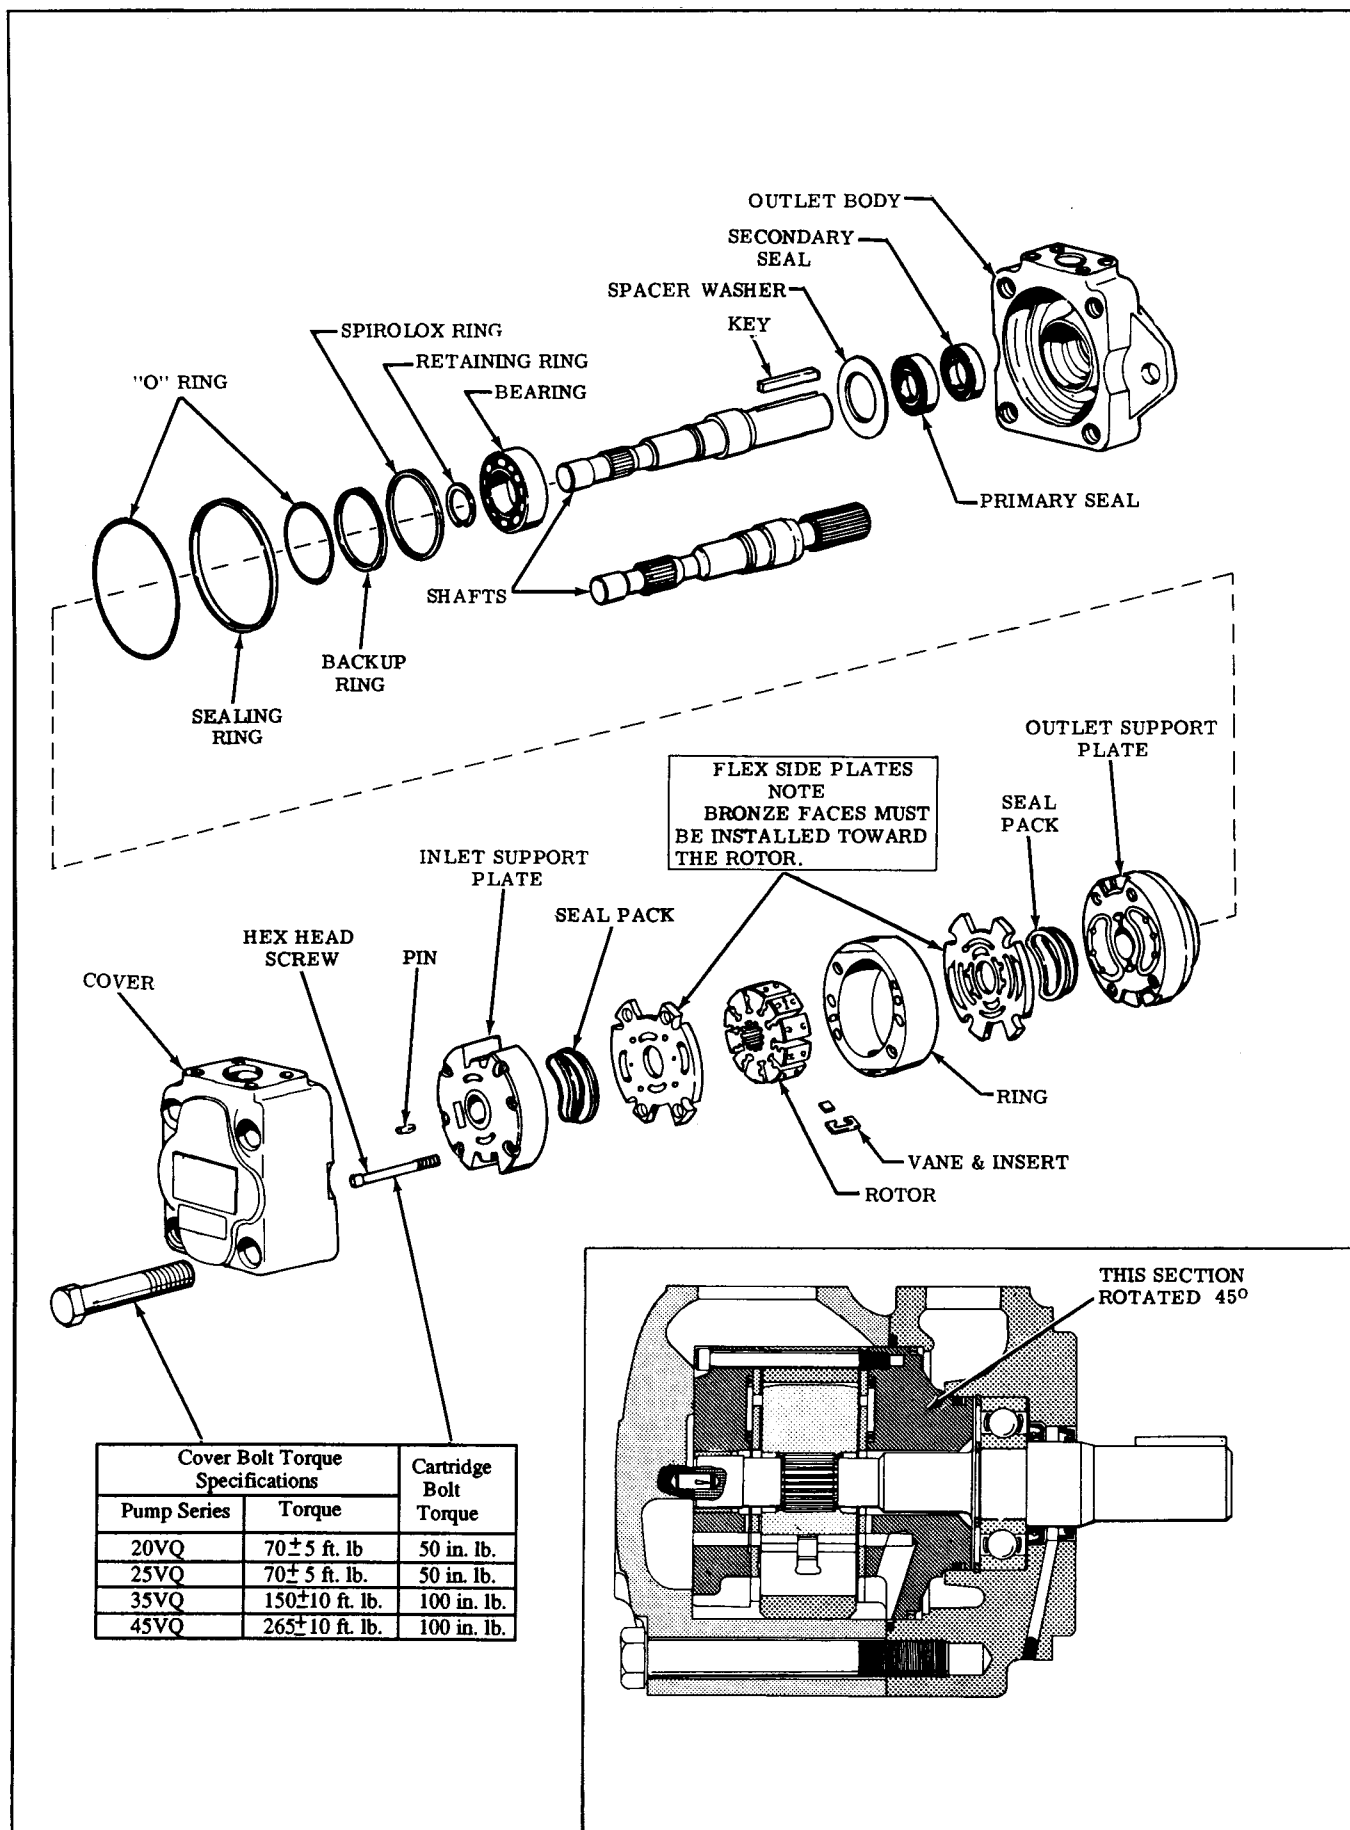
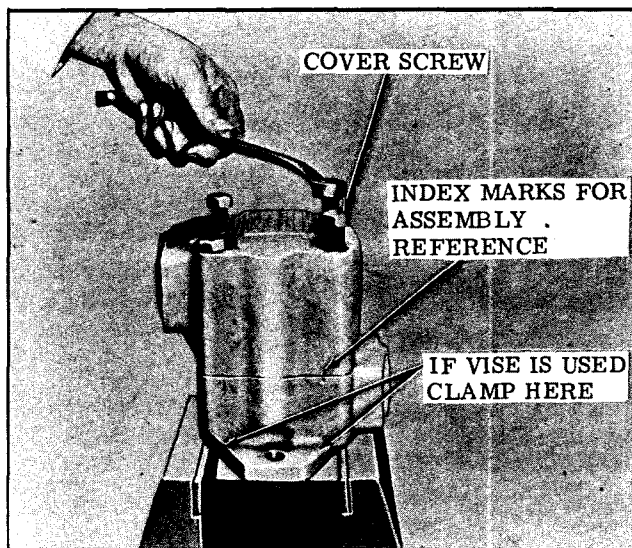
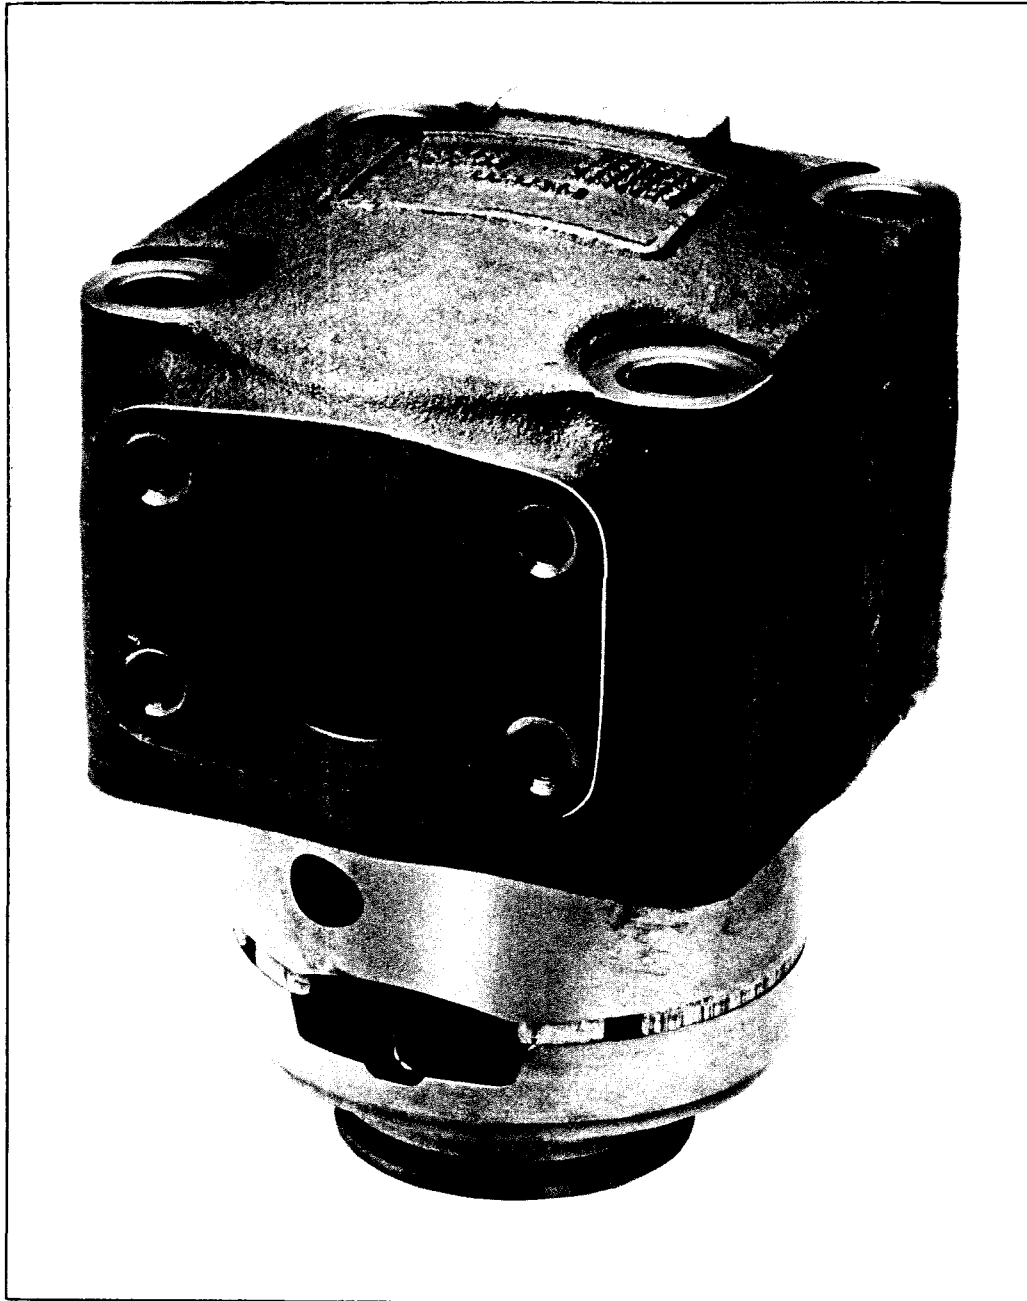

Figure 9 - Exploded and cross-section views of typical pump
Figure 10. Beginning Disassembly
Figure 22. Aligning cartridge kit with cover.
Plug all removed units and cap all lines to prevent the entry of dirt into the system. During disassembly, pay particular attention to identification of the parts, especially the cartridges, for correct assembly. Figure 9 is an exploded view which shows the proper relationship of parts for disassembly and assembly. Refer to Figure 1 and Figure 9 for the correct assembled relationship of the parts. Various steps in the overhaul process are shown in Figures 10 through 22.
1. Basic Pump – Remove the foot mounting and shaft key, if used. Support the pump on blocks or clamp the body in a vise as shown in Figure 10. If a vise is used, use protective jaws to avoid damage to the body and its machined surfaces. Mark the pump body and cover for correct reassembly. Remove four cover screws and lift the cover off the pump.
i. Install the cover over the cartridge. Tap lightly on the cover with your hand until each part centers. Remove the cover gently so as not to disturb alignment. Torque socket head screws to the torque noted on Figure 9, and recheck kit alignment with the cover. Repeat until cartridge kit is aligned. (See Figure 22.)
2. Basic Pump – Clamp the body in a vise or place on 2×4 wooden blocks to facilitate assembly. (See Figures 10 and 11.)
g. Install the “O” ring and back-up ring on the cartridge, outlet support plate hub. See Figure 9 for location.
k. Oil and install the cover to body bolts (4 required). Torque to the value noted in Figure 9.